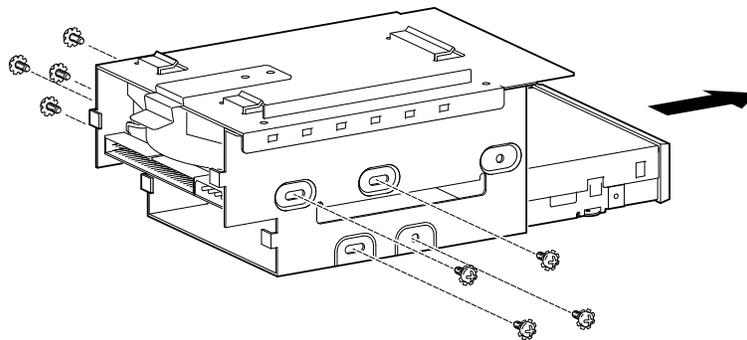

Figure 4-15. Removing the Lower Drive Bay Devices
5. Remove a device by removing the screws on the side and sliding the device out of the lower bay assembly (Figure 4-15).